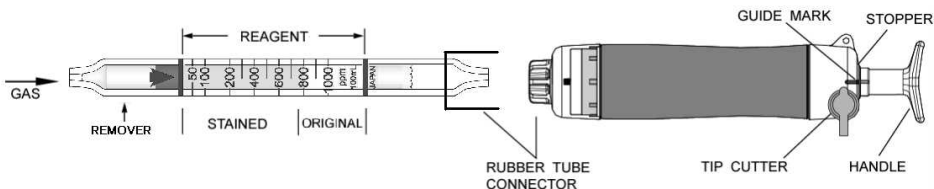

Fig.1
- ② Insert the detector tube into the aspirating pump securely as shown in Fig.1. (Arrow mark shall point to the pump.)
- ③ Align the guide marks on the shaft and stopper of the aspirating pump.
- ④ Pull the pump handle at a full stroke until it locks and wait for 1 minute or until the completion of sampling is confirmed with the flow indicator of the pump (See descriptions about the flow indicator in the instruction manual of the pump).
- ⑤ On completion of sampling, read the scale at the maximum point of the stained layer.